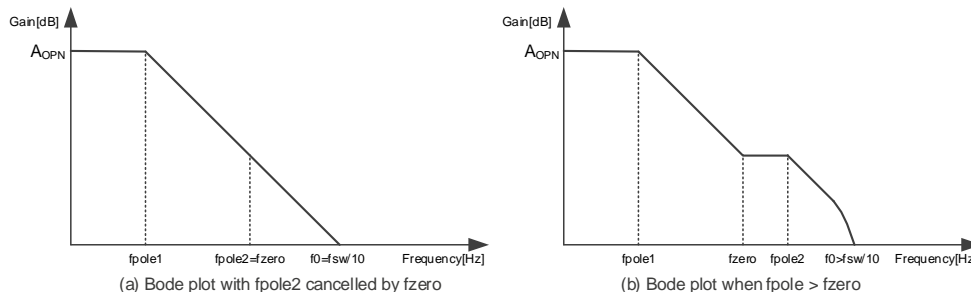

Figure 5-4 Image Diagram of Bandwidth and Phase Compensation for the Buck Switching Regulator
- (1) f_{pole1}: 1st pole determined by g_m amplifier output resistance R_{oSR} and phase compensation capacitance (C₅)
- (2) f_{pole2}: 2nd pole determined by VDRV pin output resistance R_{OUT} and output capacitance (C₄)
- (3) f_{zero}: Zero determined by phase compensation resistance (R₆) and phase compensation capacitance (C₅)
- (4) Double pole at half switching frequency (f_{sw}/2)
The target bandwidth (f₀) is set to 1/10 or less of the switching frequency (f_{sw}) to avoid stability degradation due to the phase delay of (4). The stability is ensured by setting (1) to match the target bandwidth (f₀) and canceling the pole (2) with the zero (3) (**Figure 5-4 (a)**).
If $V_{DRV} = 12$ V, $I_o = 0.5$ A, $C_5 = 2200$ pF, $C_4 = 5.5$ μ F (effective capacitance value), then $R_6 = 60$ k $\Omega \approx 60.4$ k Ω . The output capacitor (C_4) on the VDRV pin should be calculated with the effective capacitance value considering DC bias characteristics. The 2nd pole (f_{pole2}) depends on the output capacitance (C_4). If the effective capacitance value is smaller than the value used in the calculation example, the 2nd pole (f_{pole2}) becomes a higher frequency than expected, and the actual bandwidth increases from the target bandwidth (f_0) as shown in **Figure 5-4 (b)**. It causes the double pole (f_{pole1n} , f_{pole2n}) at a frequency of 1/2 of the switching frequency (f_{sw}) to be more susceptible and may affect stability.